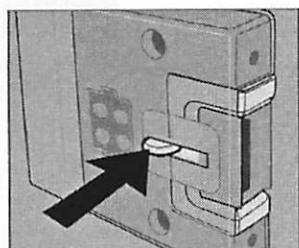

Fig. 31
- Press the "**MODE**" button to switch off MES and AES models. Keep button "**2**" pressed for 2 seconds. The display disappears and the appliance is fully switched off (Fig. 31).